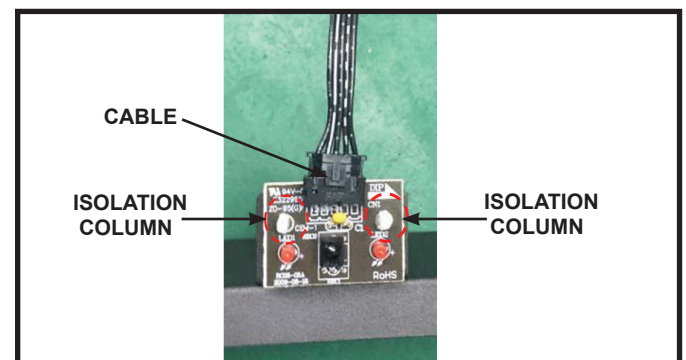

Figure 14. Receiver Board Cable
8. Unplug the cable, remove the Receiver Board and install with replacement board. See Figure 14.